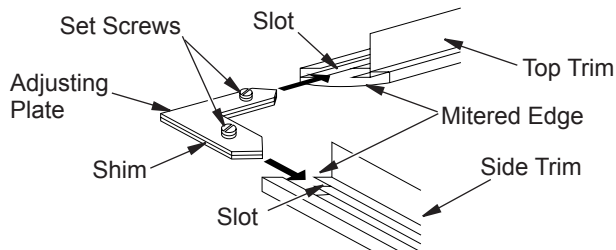

Figure 10 - Assembling Metal Trim
3. Align shim under adjusting plate as shown in Figure 10.
4. Slide one end of adjusting plate/shim in slot on mitered edge of top trim (see Figure 10).
5. Slide other end of adjusting plate/shim in slot on mitered edge of side trim (see Figure 10).